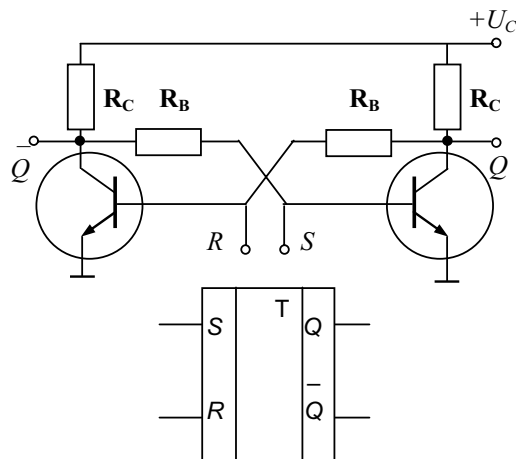

Fig. 2.48
**RS flip-flop.** Fig. 2.48 shows a pair of cross-coupled transistors operated as a latch. Each collector drives the opposite base through a resistors  $R_b$ . In a circuit like this, one transistor is saturated, and the other is cutoff. Depending on which transistor is saturated, the Q output is either low or high. To arrange a momentary pulse between any base and ground, the corresponding transistor closes, and the triggering process starts again. This is an *RS flip-flop*, a circuit that can set the Q point to high or reset it to low. Incidentally, a complementary (opposite) output is available from the collector to the other transistor. In a schematic symbol of an RS flip-flop, which latches in either of the two states, a high input S sets Q to high; a high input R resets Q to low. Output Q remains in a given state until the flip-flop is triggered into the opposite state.